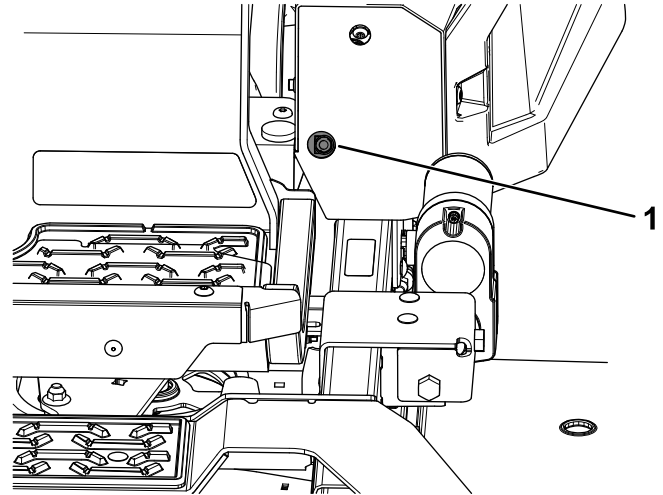
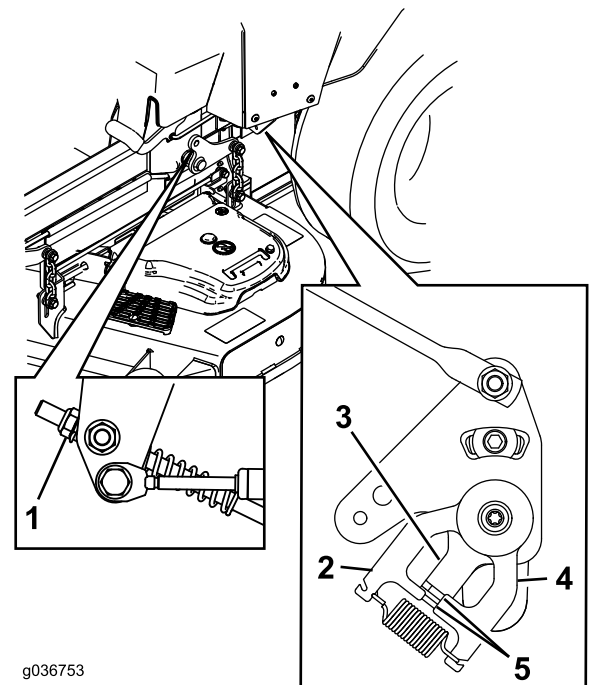

Figure 87
Figure 88
11. Adjust the pump-control-rod lengths by rotating the nut in the appropriate direction until the wheels slightly creep in reverse (Figure 87 and Figure 88).